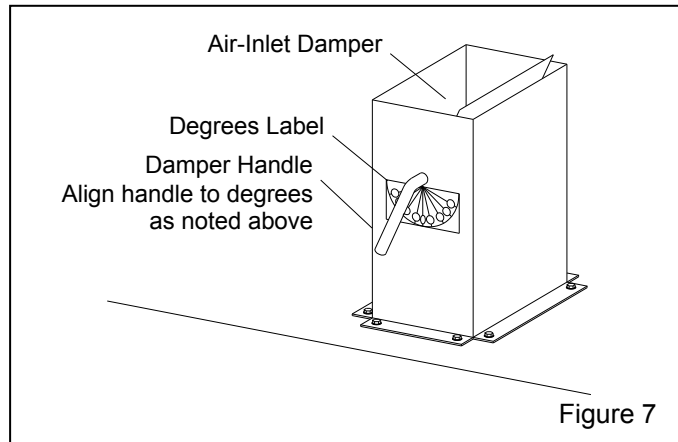

Figure 7
2.6 Cabinet Air-Inlet Damper, refer to Figure 7